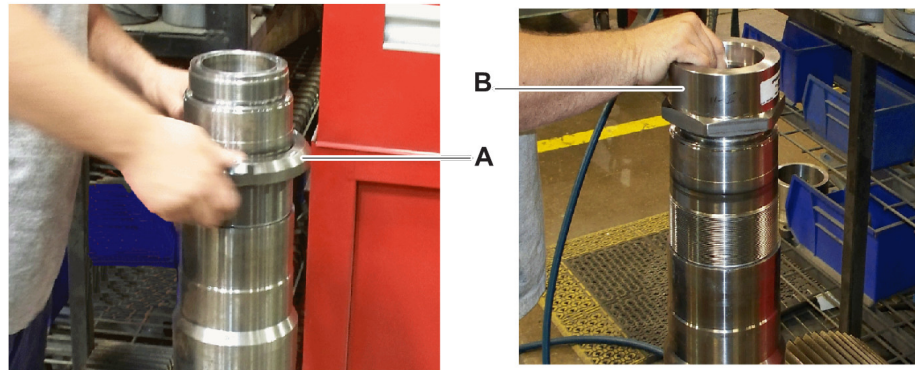

Figure 4
7. Make sure of correct thread match between the bearing adjusting nut (Figure 4, item A) and the spindle (item B).